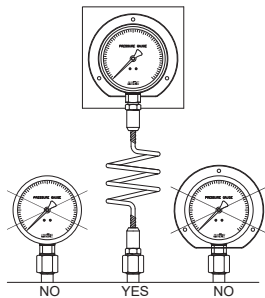

Figure 9
- 1) Check presence of vibration, pulsation or heat in pipe lines and determine whether to use accessory, or select products with capillary or other oil types. (Figure 9)